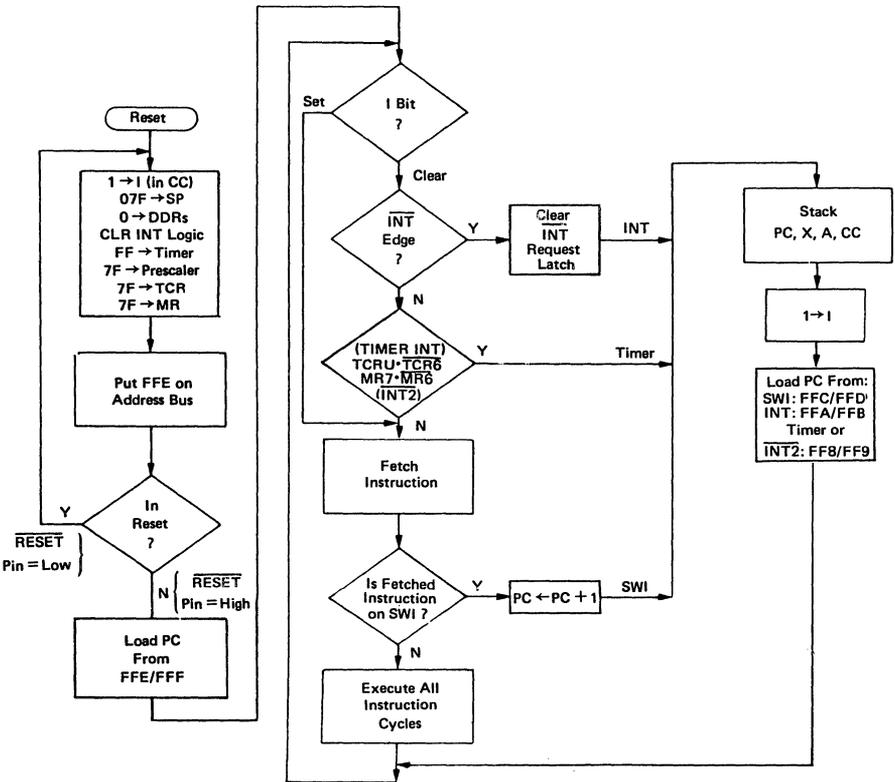

FIGURE 18 – RESET AND INTERRUPT PROCESSING FLOWCHARD
The microcomputers can be interrupted four different ways : through the external interrupt (INT) input pin, the internal timer interrupt request, the external port D bit 6 (INT2) input pin, or the software interrupt instruction (SWI). When any interrupt occurs : the current instruction (including SWI) is completed, processing is suspended, the present CPU state is pushed onto the stack, the interrupt bit (I) in the condition code register is set, the address of the interrupt routine is obtained from the appropriate interrupt vector address, and the interrupt routine is executed. Stacking the CPU register, setting the I bit, and vector fetching require a total of 11 tcy periods for completion. A flowchart of the interrupt sequence is shown in Figure 18. The interrupt service routine must